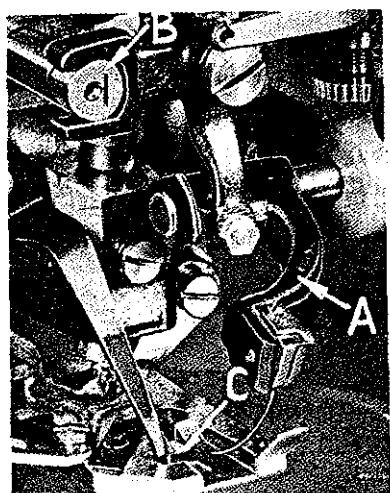
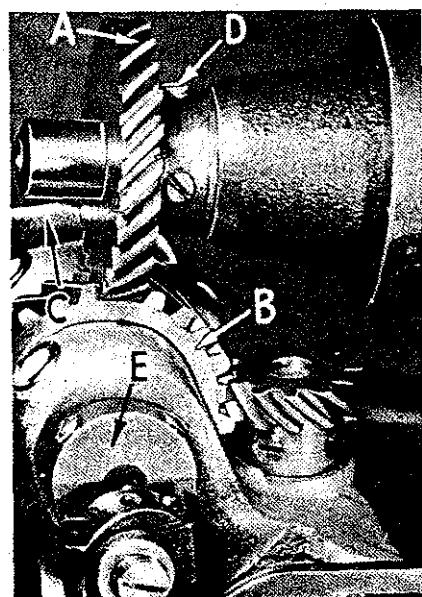
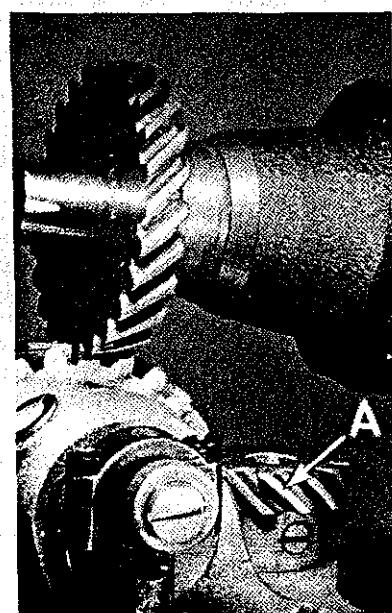
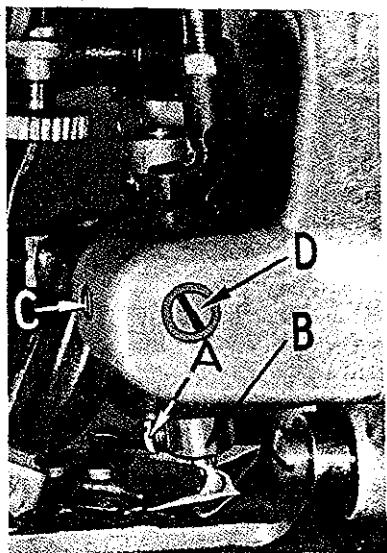

Fig. 3
Fig. 2
Fig. 6
Fig. 7
Remove head cover. With machine in stop position, remove gear (A, Fig. 2) from main shaft. Turn head main shaft gear (B) until the take-up lever (C) is at its highest point. Replace main shaft gear (A) with spot screw (D) in line with timing slot in main shaft. Tighten screws.
With machine in stop position, loosen screws in the needle drive crank (E, Fig. 2), and turn crank until needle carrier (A, Fig. 3) is at highest point of travel, and tighten screws in crank.
Loosen set screws in the looper drive shaft gear (A, Fig. 6). Turn pulley in operating direction until needle has reached the forward end of its left side travel and returned $3/32$ inch. Turn looper and its shaft so that the point of looper is over center of needle, and tighten set screws in gear (A). Lower point of looper as close to the needle as possible without deflecting the needle. Loosen screw (A, Fig. 7) to make this adjustment.
To check adjustment of needle height, turn the pulley in operating direction until screw (A, Fig. 7) in looper driving gear (B) points to right of machine. At this point the needle point should be approximately $1/16$ inch past the front edge of needle guide (C, Fig. 3) on presser foot, and just contacting needle guide.
If needle point strikes needle guard too far forward of the $1/16$ inch dimension, or too hard, an adjustment can be made by loosening set screw (C, Fig. 7) and inserting a screwdriver in slot of needle carrier eccentric shaft (D). Turn eccentric shaft as required to bring needle carrier up or down and tighten set screw. After making this adjustment check and be sure there is no play between needle and needle guide when needle point is over center of plunger No. 26-173. After making this adjustment it may be necessary to reset the adjustment under "Adjust Stroke of Needle" and "Timing the Looper".